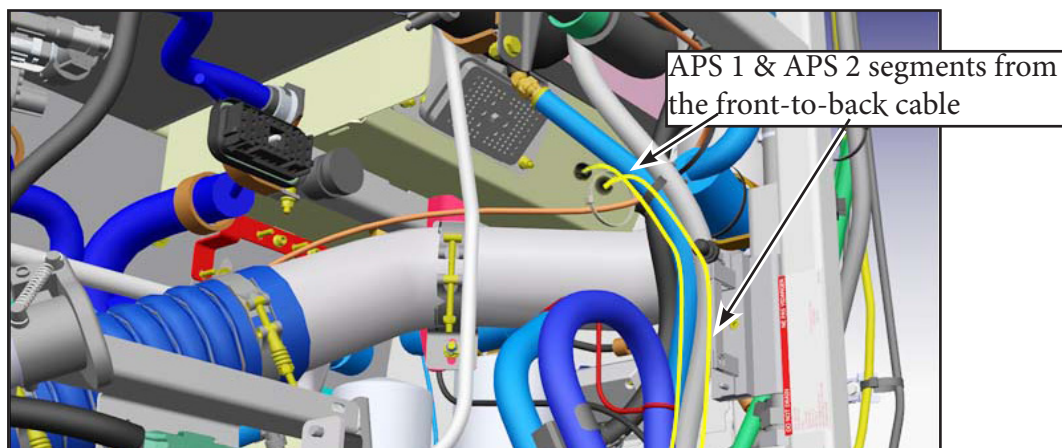

Figure 28 - Front-to-Back Cable Routing in the +IB-X6499A Area (Engine Compartment)
- 2.15. Rejoin the two APS cable segments within the convoluted tubing provided with the front to back cable wire kit. Continue routing and tie-wrapping the front-to-back cable along harness 64 inside the engine compartment (see Figure 28).